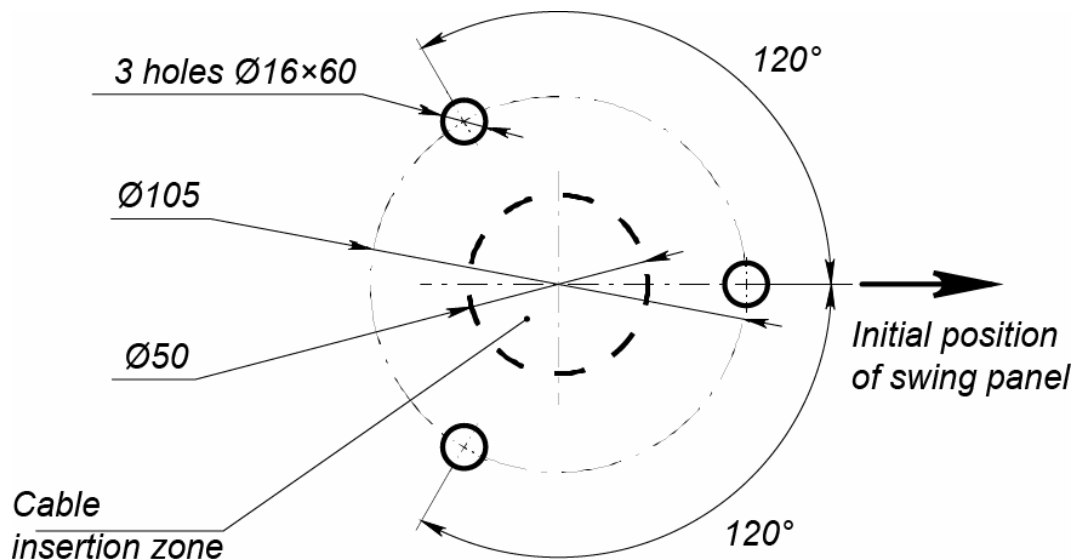

Figure 10. Mounting hole pattern
2. Mark and prepare the mounting holes in the floor as per Fig. 10 for anchors (9) to install the gate post (If necessary, take advantage of the supplied template). Use $\varnothing 16$ mm hard-alloy drill for hole preparation. Drilling depth is 60 mm.
4. If it is necessary to lay power cables (13) and control cables (14) under the floor, prepare an electrical conduit in the floor in the zone where cables are inserted into the gate post. Location of the zone is given in Fig. 10.